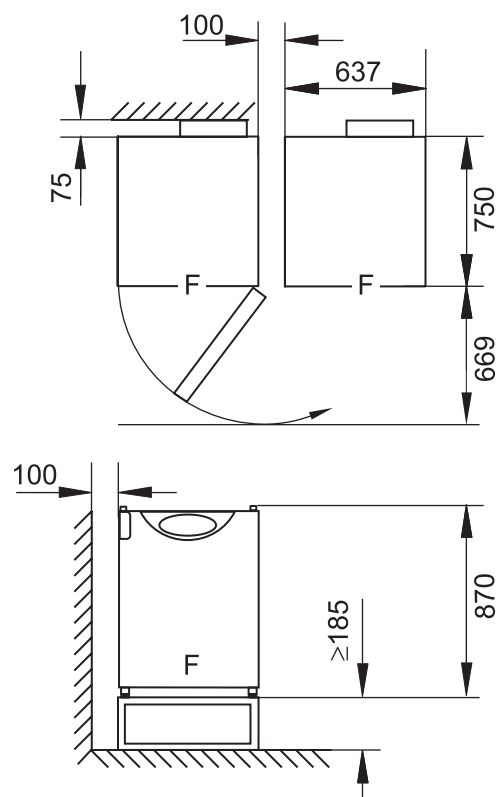

Fig. 1
**Fig. 1:** When installing the device, make sure that the installation and supply connections are freely accessible. The control box at the rear panel of the device may serve as a spacer to adjacent objects. The side distances given are minimal distances.